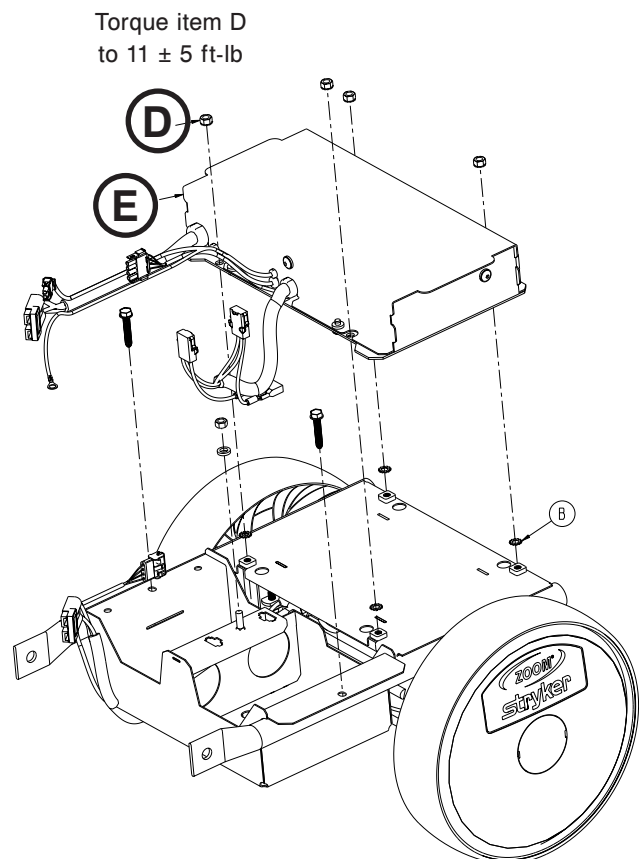

Figure 26
4. Using a 1/2" socket with extension with a 3/8" drive extension and a 3/8" drive ratchet, remove the kep nuts (D) at each corner of the enclosure assembly (E) (Figure 26).
7. Remove the electrical enclosure assembly (E) (Figure 26).